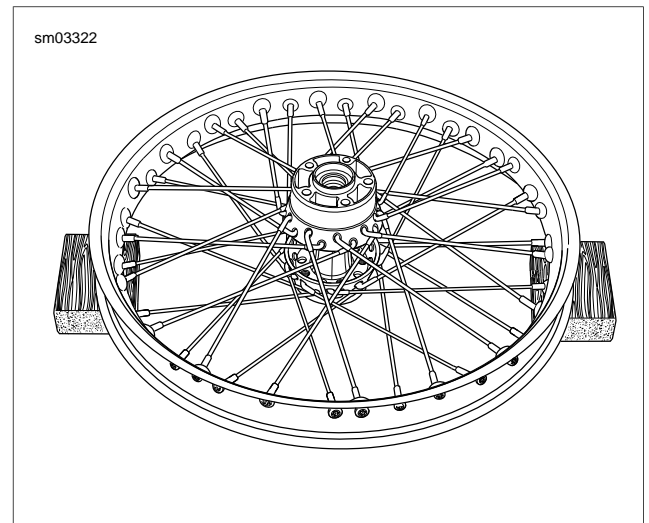

Figure 2-51. Upper Spoke Row Completed
9. See Figure 2-51. Insert any **upper** row spoke into hub and angle spoke counterclockwise into appropriate rim hole. Install remaining upper row spokes.